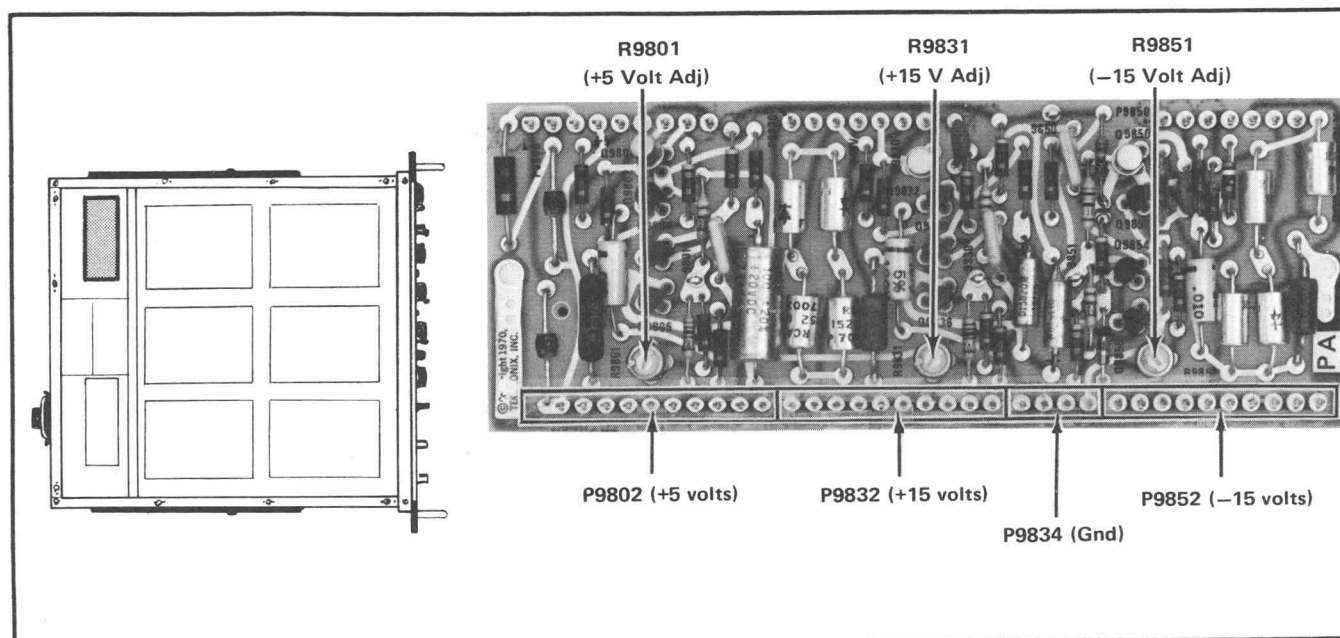

Fig. 4-4. Power Supply test point and adjustment locations.
a. Connect a precision DC Voltmeter between chassis ground (pin 1 of P9834) and P9852 ( $-15$  volts), see Fig. 4-4.